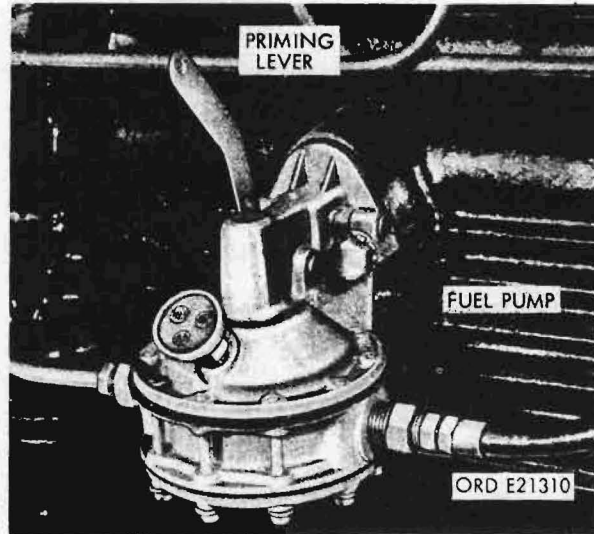

Figure 35. Fuel pump priming lever - gasoline models
(20) Air supply valves (fig. 35). Early gasoline models are equipped with two air-supply valves, one on each side of the